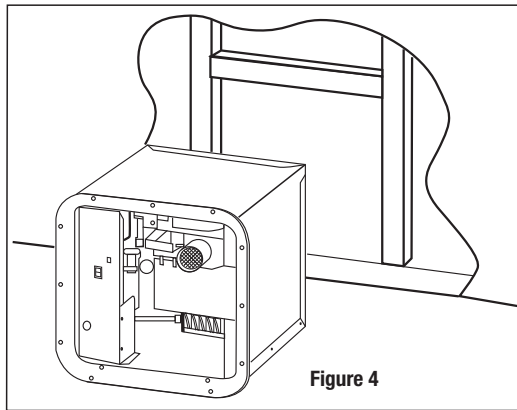

Figure 4
6. Secure water heater housing unit to the vehicle using No. 8 - 3/4" flat head screws through each hole in the door flange (Figure 4). Verify that a tight seal exists between the side wall and the flange. If not, repeat above steps.